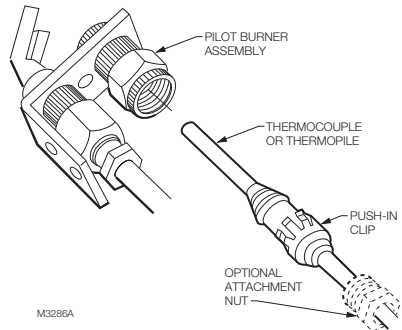

Fig. 4. Installing thermocouple or thermopile.
1. Insert thermocouple or thermopile tip into hole or barrel provided beneath pilot burner. See Fig. 4.
1. Insert thermocouple or thermopile tip into hole or barrel provided beneath pilot burner. See Figs. 4 and 5.